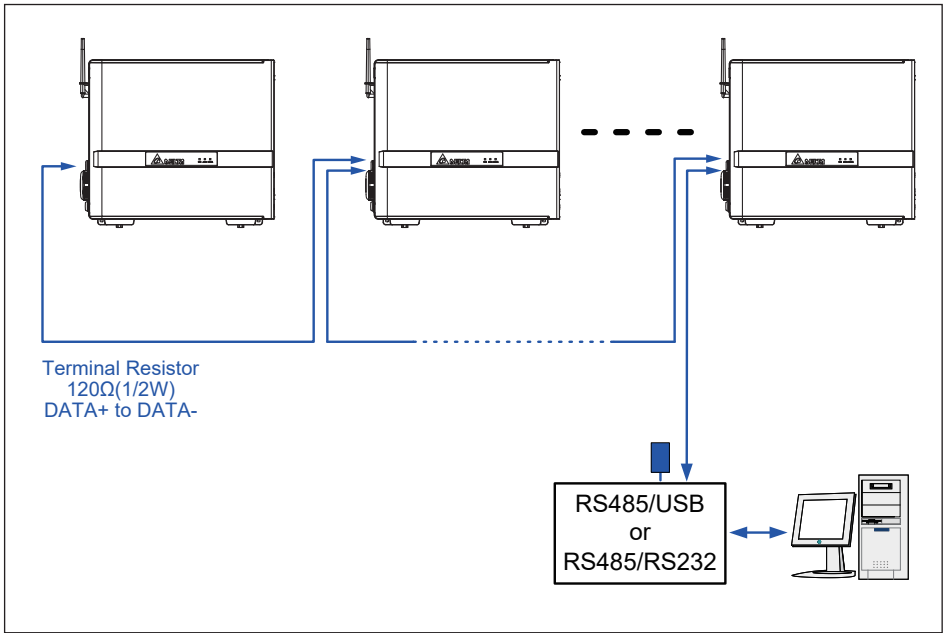

Figure 3-20: Multiinverter connection illustration
- When several inverters are cascaded (i.e., "daisy-chained") only the last inverter in the chain must have its bus termination resistor switched ON (**Figure 3-20**).